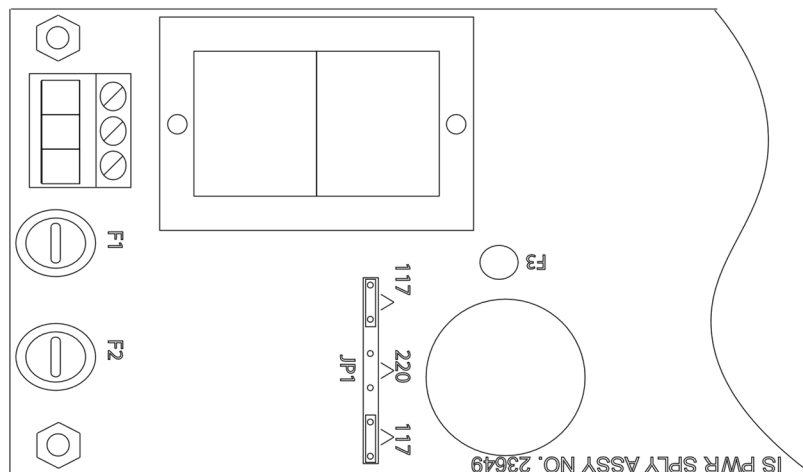

Figure 2
- 1) Remove the cover from the 2816 Accessory enclosure. The cover has protection devices mounted to it that are connected to the circuit board in the base with a four (4) wire cable. **Use care when removing the cover.** Gently remove the enclosure cover, unplugging the cable as you do.
- 117 VAC** operation is selected by placing jumpers on pins 1 & 3 (position A) and 9 & 11 (position C) – see figure 2.
- 220 VAC** operation is selected by placing jumpers on pins 5 & 7 ONLY (position B) – see figure 2.